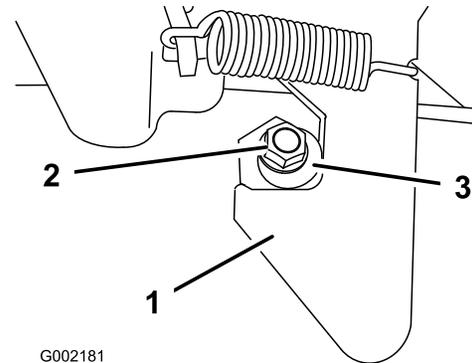

Figure 71
- Loosen the locknut on the end of the latch post (Figure 71).
- Rotate the latch post clockwise until it is snug against the hook portion of the latch (Figure 71).